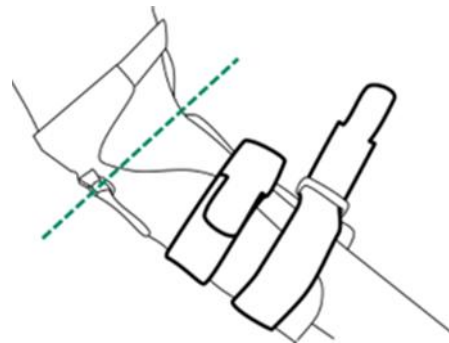

Figure 14
3. Put on the arm cuff. Align the two metal D-rings of the arm cuff with the elbow rotation axis (green dotted line) and close the Velcro (Fig. 14).